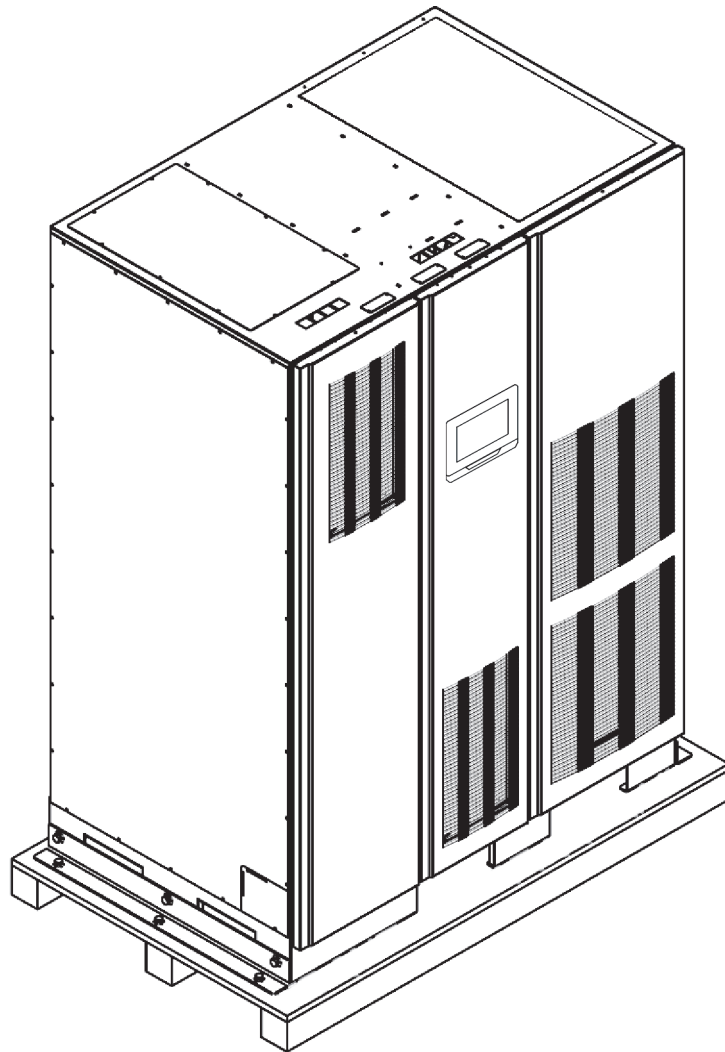

Figure 3-7. Eaton 9395P UPS 250 kVA / 300 kVA cabinet as shipped on pallet
The UPS cabinet is palletted separately for shipping. The cabinet is shipped bolted to a wooden pallet and protected with outer protective packaging material (see Figure 3-7).
2. Use a forklift or pallet jack to move the packaged cabinet to the installation site, or as close as possible, before unpacking. Insert the forklift or pallet jack forks from the right side of the cabinet, between the supports on the bottom of the pallet (see Figure 3-7 on page 23 for the location of the UPS center of gravity).